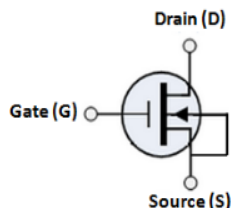

Fig. 4.17 Symbol for n-channel D-MOSFET
- The substrate is connected to the source as shown in fig.4.17. This gives rise to a three terminal device.